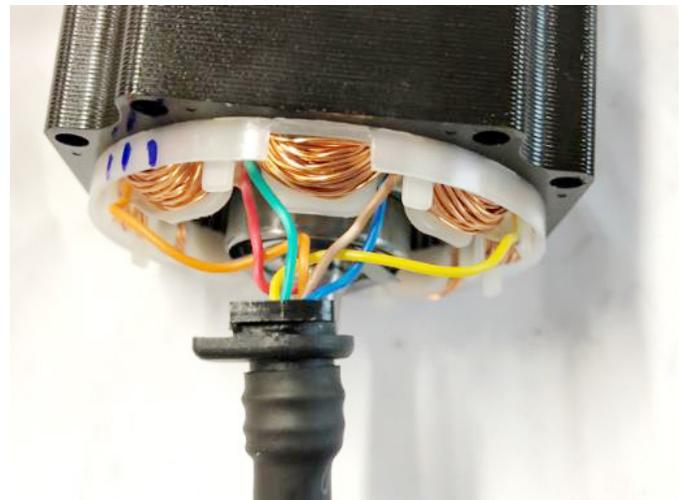

FIGURE 4
1. You are not using all nine wires to connect the stepper motor. You are only using six of the wires (6) that come out of the stepper motor (see Figure 4).